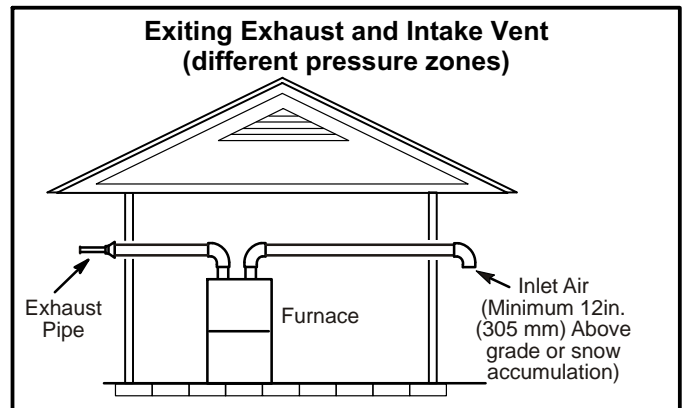
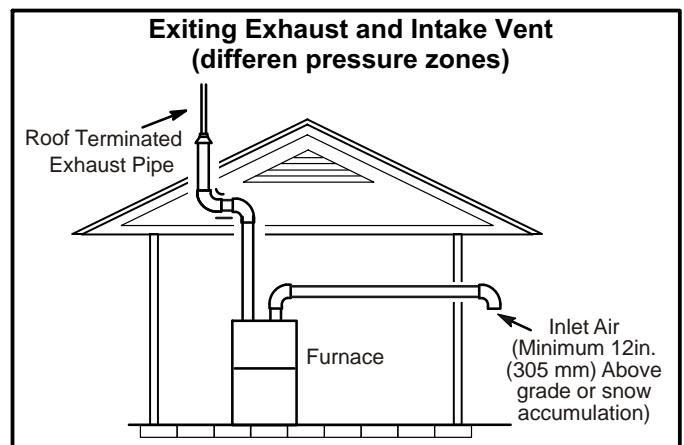

FIGURE 32
FIGURE 33
- 1 - Vent terminations are not required to be in the same pressure zone. You may exit the intake on one side of the structure and the exhaust on another side (figure 32). You may exit the exhaust out the roof and the intake out the side of the structure (figure 33).